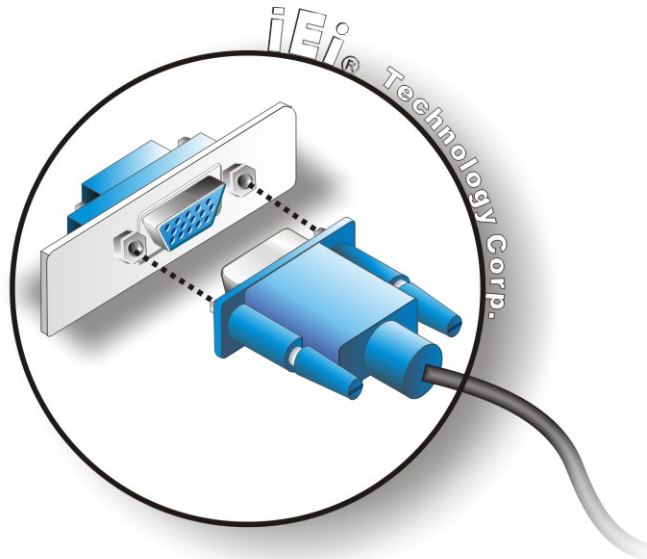

Figure 3-20: VGA Connector
Step 8: Insert the VGA connector. Once the connectors are properly aligned, insert the male connector from the VGA screen into the female connector on the ECN-581A-QM57. See **Figure 3-20**.